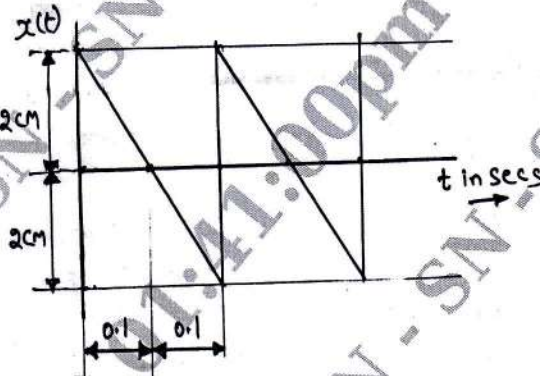

Fig Q2(b) (10 Marks)
- b. Represent the periodic motion shown in Fig Q2(b) by harmonic series.